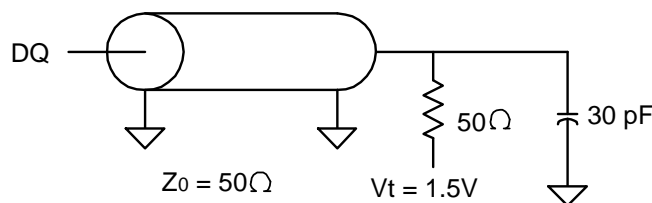

Fig.1 OUTPUT LOAD EQUIVALENT
| Output load | See Figures 1 and 2 |
5. Test conditions as specified with the output loading as shown in Fig. 1 unless otherwise noted.